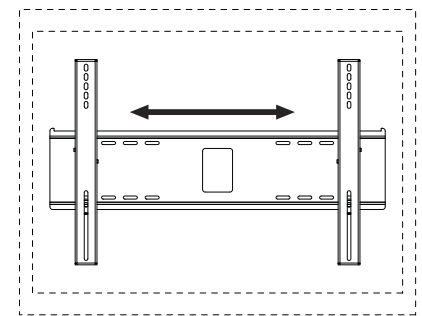

fig 11.2
Screen Adjustment: Screen can be adjusted horizontally by loosening security screw three full turns using allen wrench (L). Adjust screen as shown in figure 11.2. Tighten security screw.